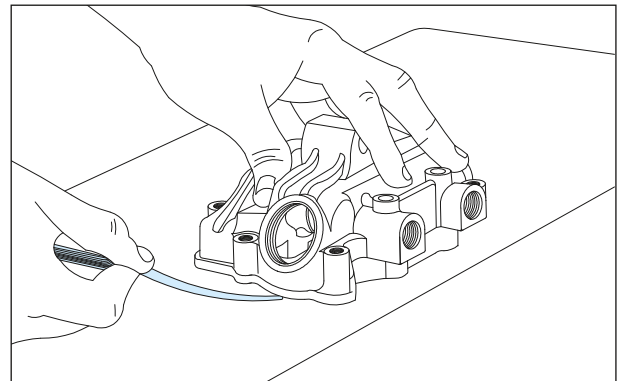

Fig. 3.108
- Using feeler gauge and surface plate, check for distortion of cover cylinder head. (Fig. 3.108)